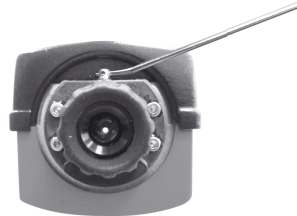

Figure 12
b) Using the adjusting pin turn the adjusting screw (Figure 12), until the reading  $b_3$  on the staff B becomes  $b_3 = a_2 - \Delta h$ .